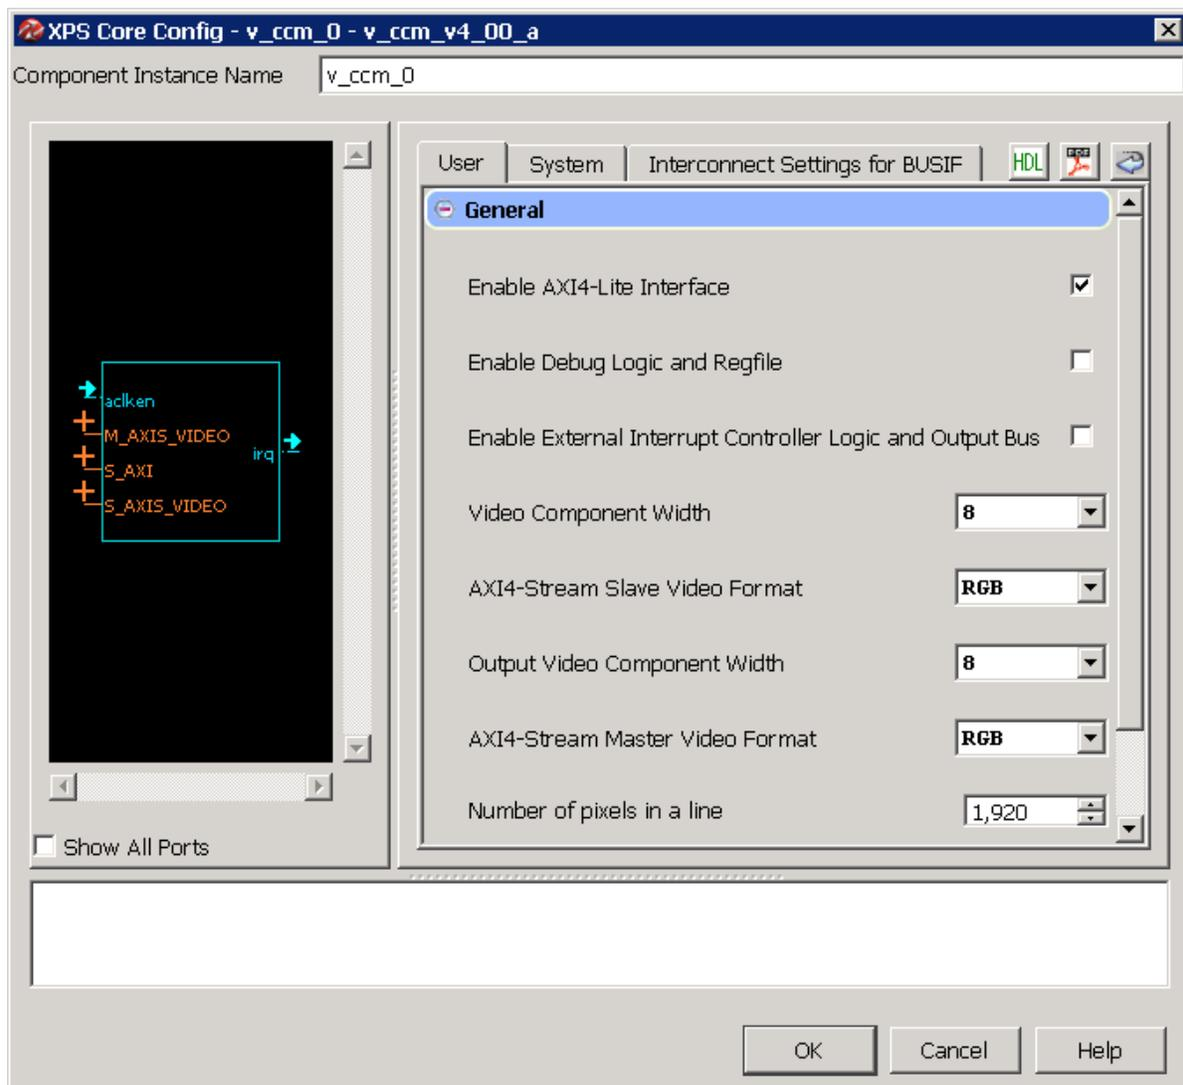

Figure 3-3: EDK Graphical User Interface
- **Offsets:** Enter the offset coefficients (O in Equation 1-1). These signed coefficients have the same bit width as the output. Enter the offset values (O in Equation 1-1). These signed integer values must be in the range $[-2^{\text{Out_Data_Width}}, 2^{\text{Out_Data_Width}} - 1]$, and are 1-bit wider than the Output Data Width specified on the first page of the GUI, as shown in Figure 3-3.